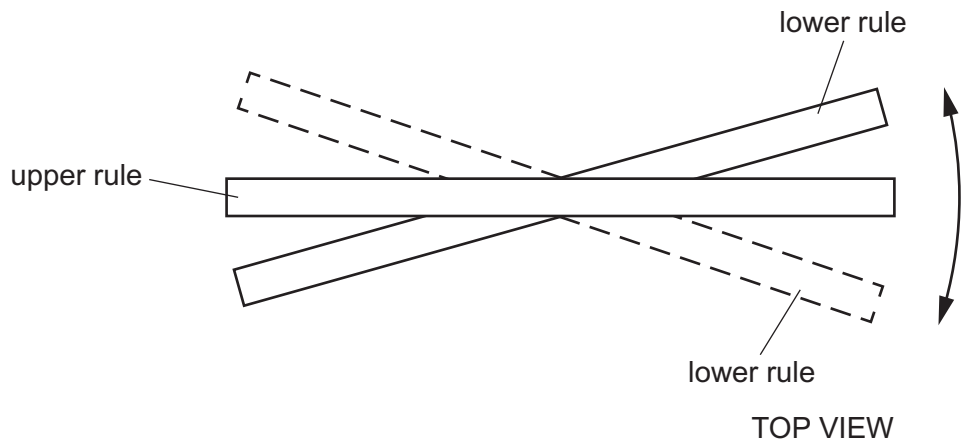

Fig. 1.2
- Gently rotate the lower rule and release it. The lower rule will oscillate as shown in Fig. 1.2.